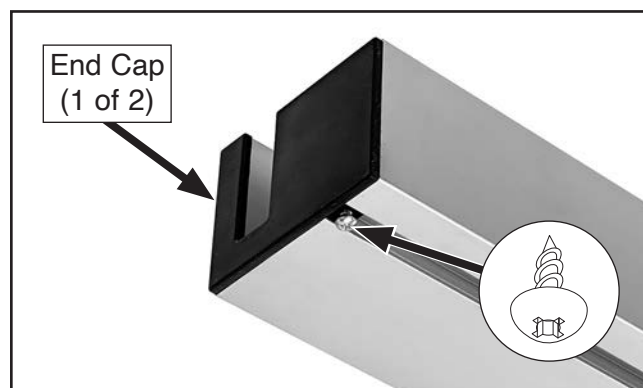

Figure 19. Location of front extension rail left end cap.
3. Loosen tap screw securing end caps (see **Figure 19**) to front extension rail, then remove end cap.